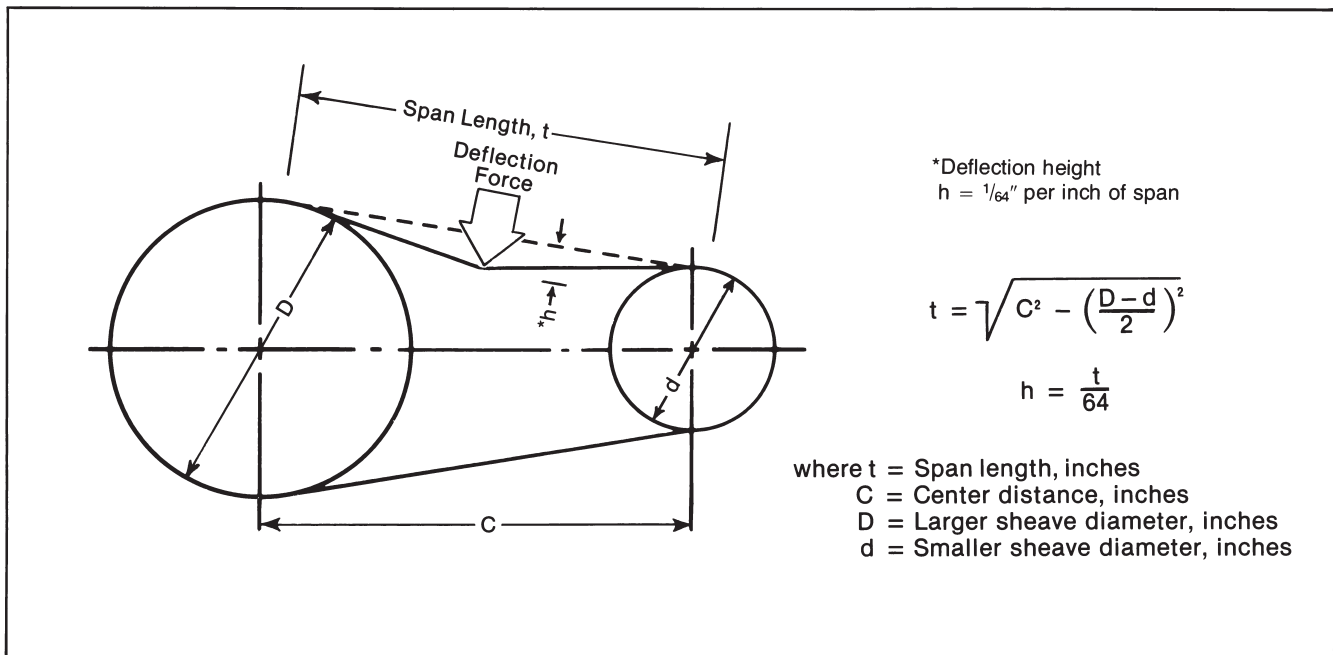

Figure 2
Step 1: Install belts per Step 1 of General Method. Measure span length (t) in inches as shown in figure 2, or calculate using formula.
Step 2: From figure 2 the deflection height (h) is always $\frac{1}{64}$ " per inch of span length (t). For example, a 32" span length would require a deflection of $\frac{32}{64}$ " or $\frac{1}{2}$ ".
Step 4: Using a spring scale, apply a perpendicular force to any ONE of the belts at the mid point of the span as shown in figure 2. Compare this deflection force with the values found in Step 3.